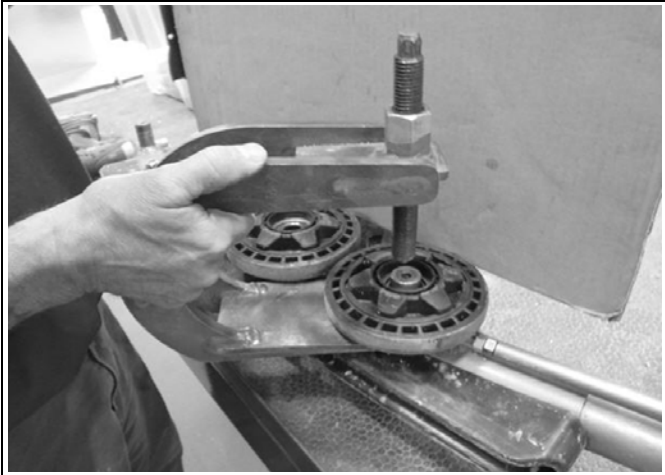

Figure 25
- Place the extractor under the wheel as shown on Figure 25